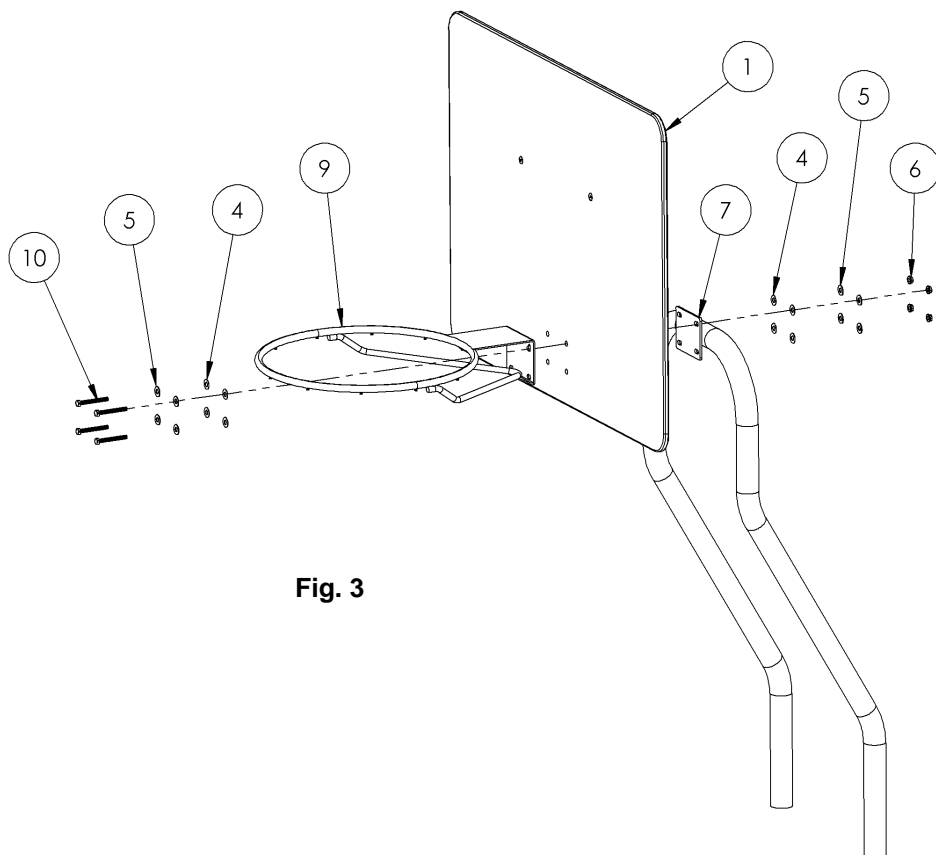

Fig. 3
2. Place the four bolts with hardware through the Rim (9): 5/16-18 X 2 3/4 HH TAP BOLT 316SS (10), 3/8" Flat Washer (5), and 3/8" Nylon Washer (4). Align the bolts and rim with the holes in the Acrylic Backboard (1). Next, continue the bolts through the mounting plate on the Vertical Posts (7), and tighten using the hardware shown: 3/8" Nylon Washer (4), 3/8" Flat Washer (5), and 5/16"-18 Flanged Nut (6). See **FIGURE 3**. Do not fully tighten the hardware.